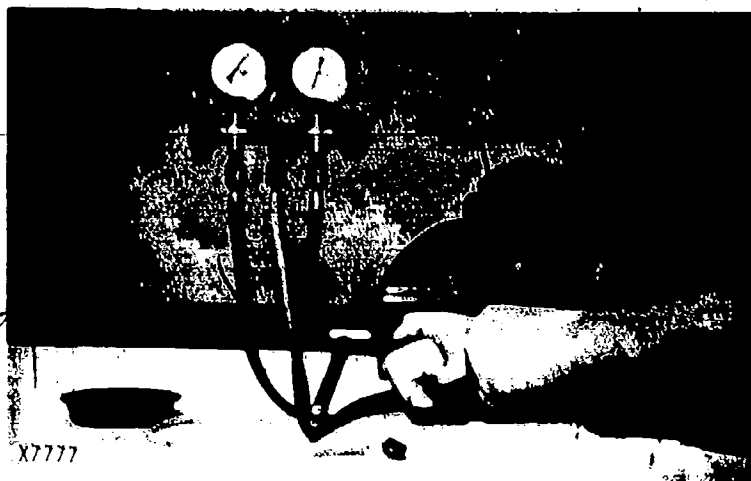

Fig 70 -- Rotate Compressor Clutch Hub
3. Use a socket and speed handle (Fig. 70) to rotate the compressor clutch hub ten times at a rate of one revolution per second.